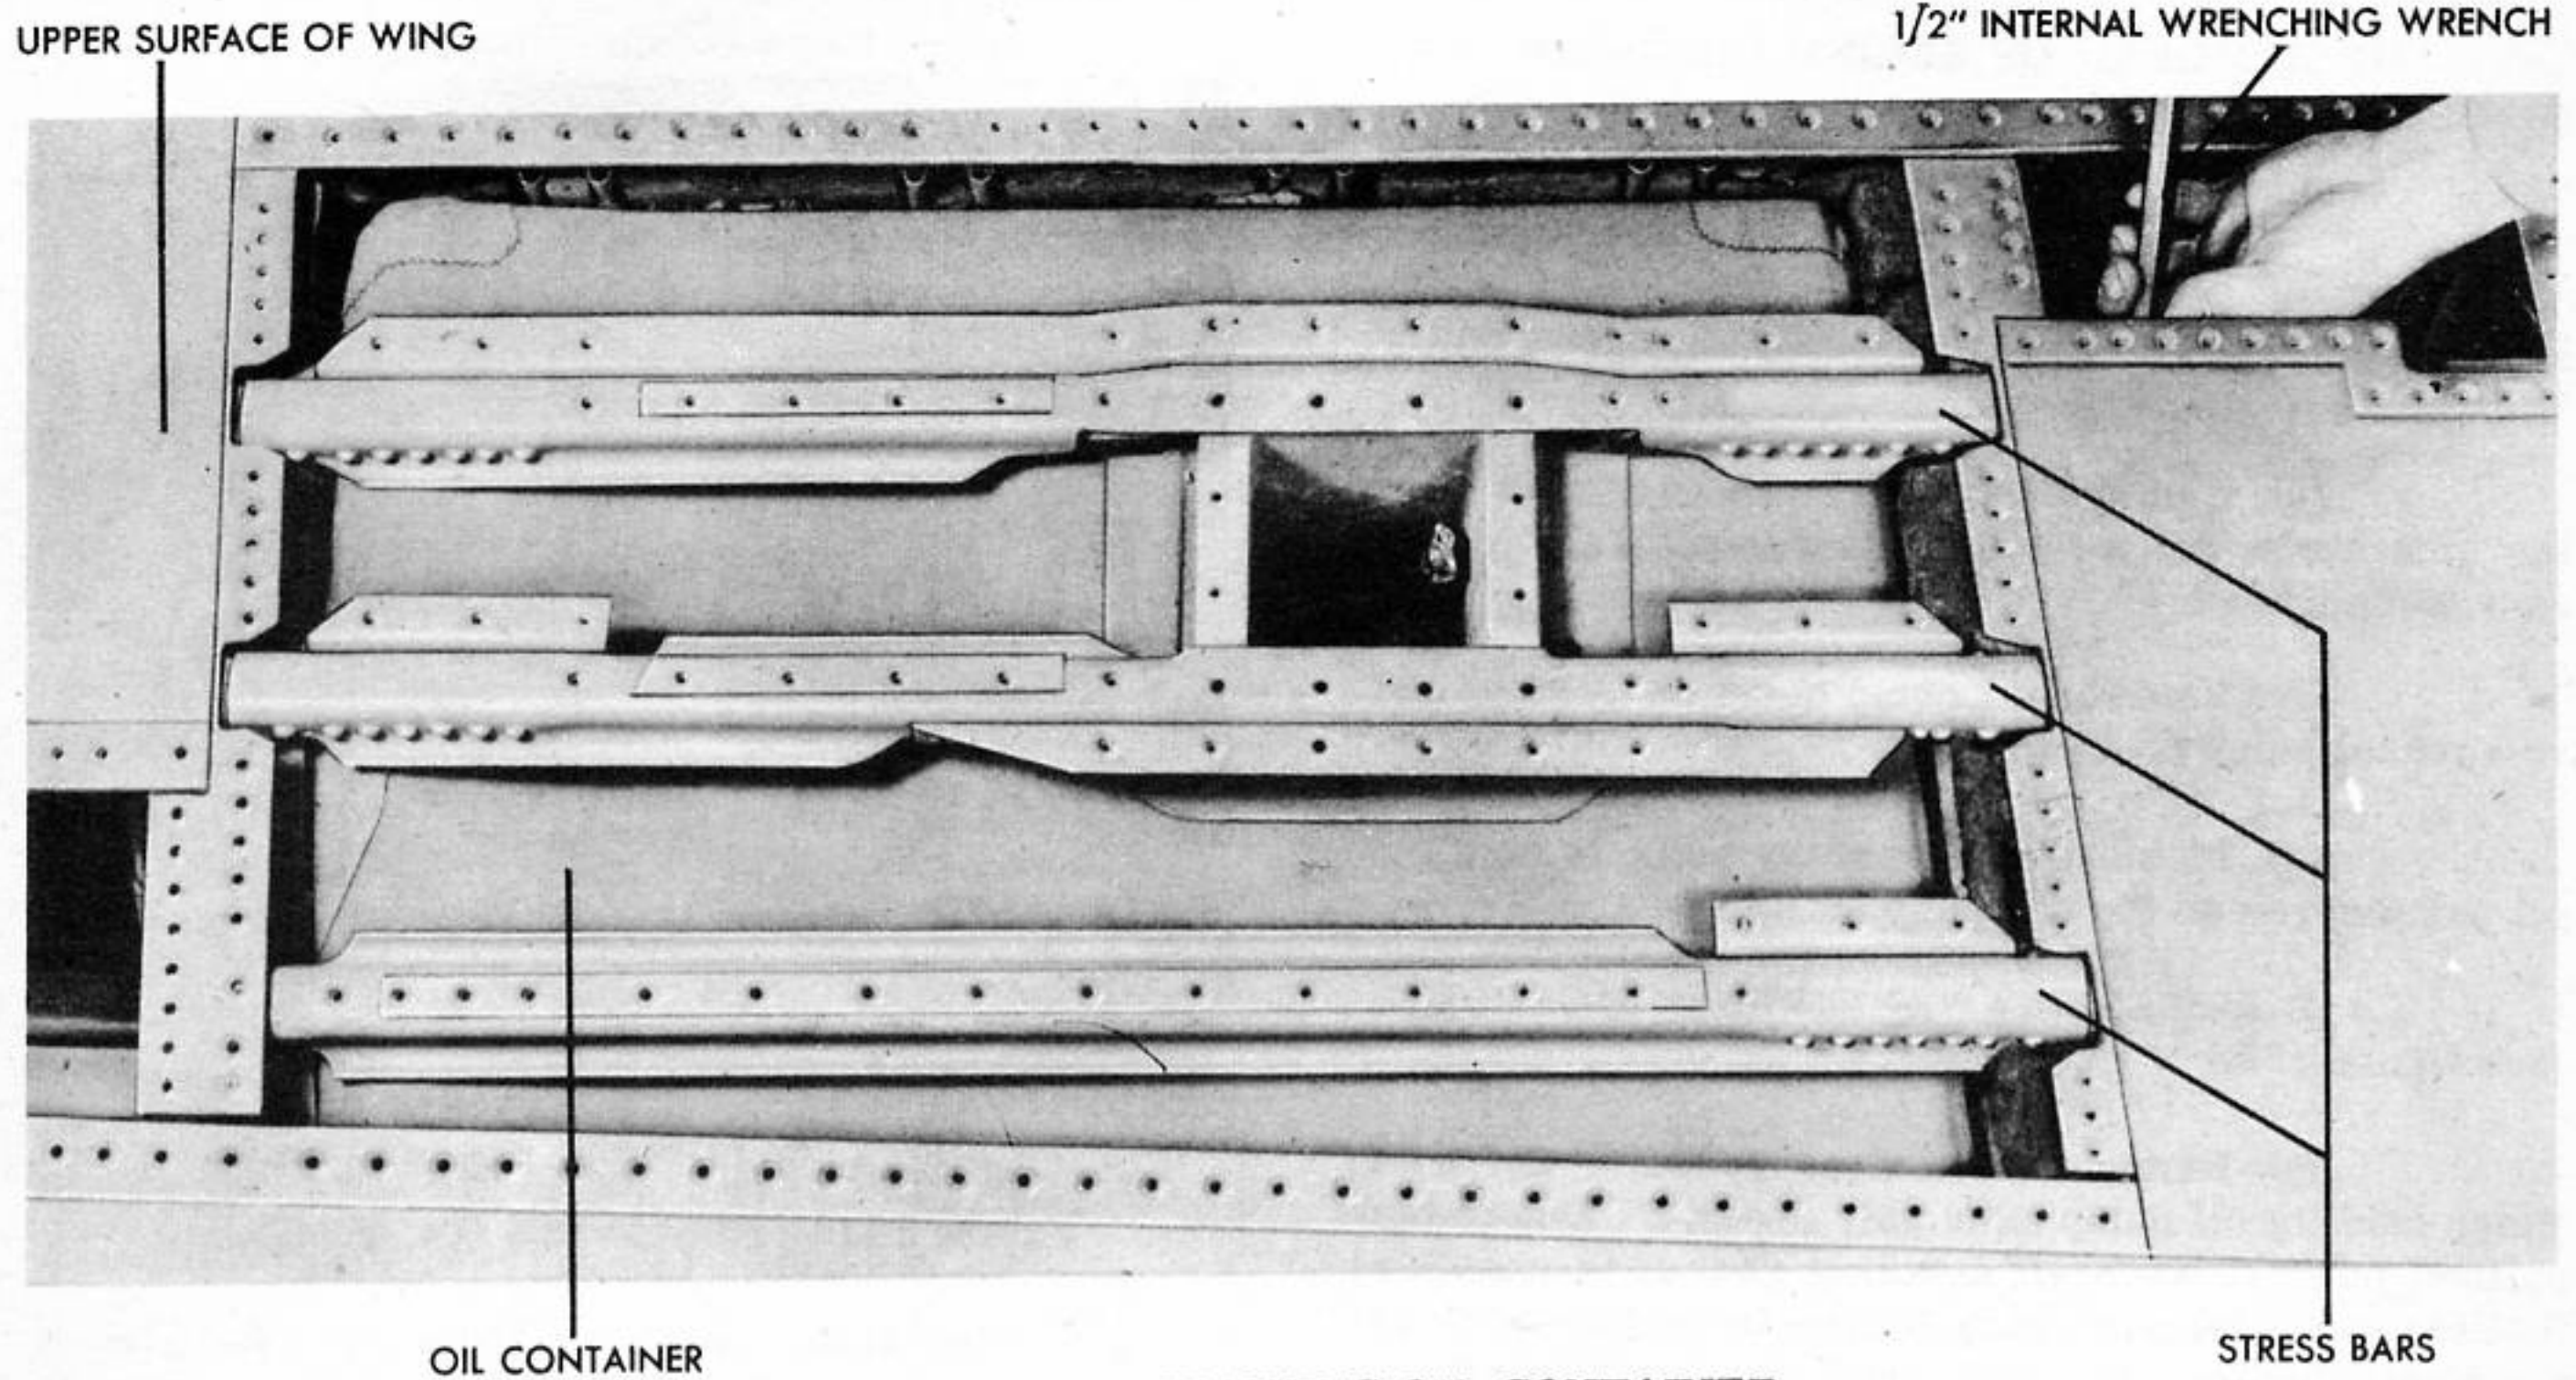

Figure 131 - REMOVING OIL CONTAINER
(1) REMOVAL OF OIL CONTAINERS. (See figure 131.)